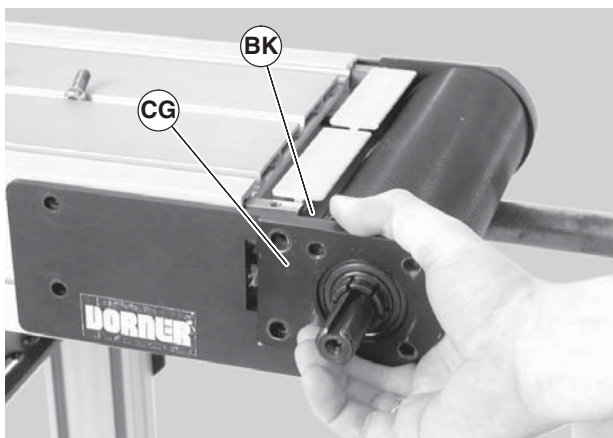

Figure 72
- Remove the outer headplate assembly (Figure 72, item CG), and inner spacer (BK).